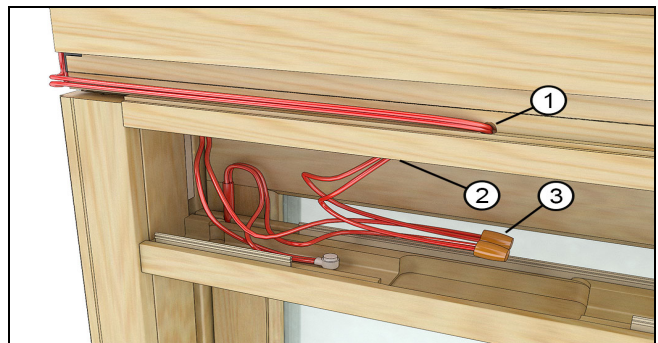

Figure 17
3. **Horizontal Mulls:** Fish the wire through the 1/4" (6) hole in the head jamb. Route the wire along the mull to the rough opening. See Figure 17.